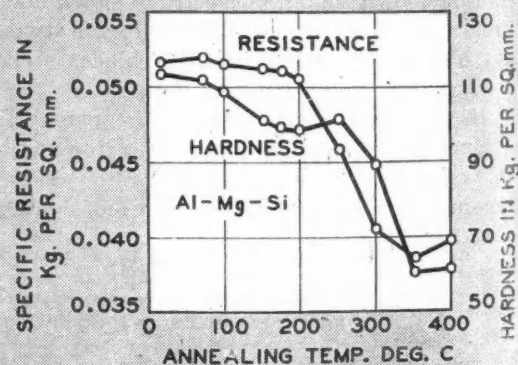
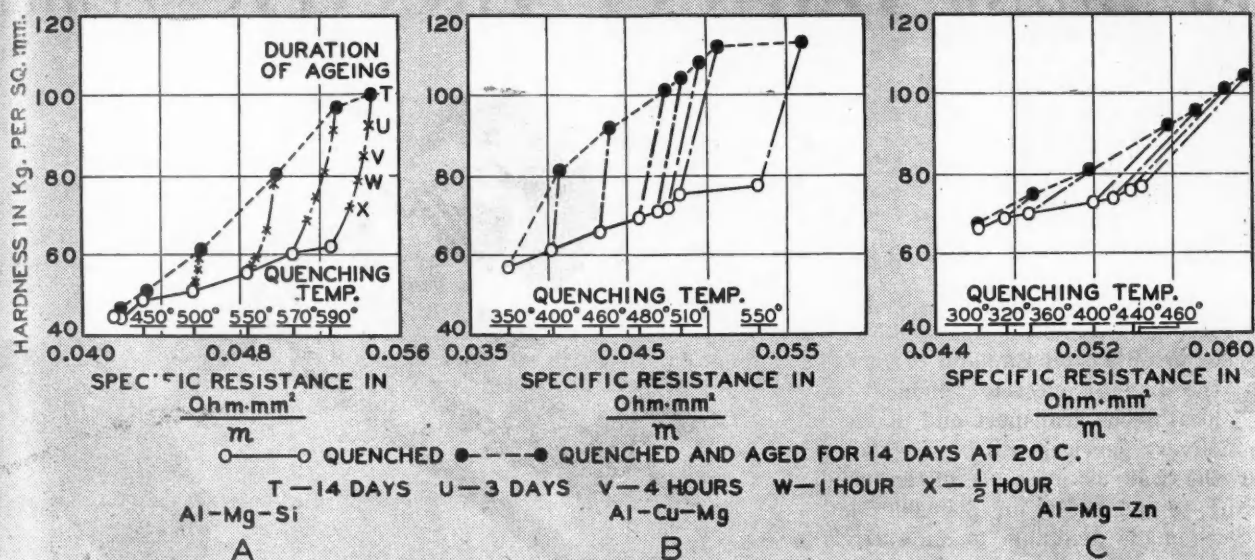

Fig. 3. Change in hardness and resistance on annealing a cold-aged alloy of Al-Mg-Si.
Fig. 2. Hardness of three aluminum alloys in connection with specific electric resistance.
**Fig. 3—Unetched photomicrograph of the weld zone of the exhaust manifold which had been in service 4000 hr. This picture indicates the depth of corrosion which occurred during the life of the manifold—only 0.005 in.**
Photomicrograph, Fig. 2, is a picture of a weld zone taken from an exhaust manifold which had been in continuous service from 1938 to 1944. The total flying hours accumulated during these years approximates 4000 which is in excess of the normal life of an exhaust manifold. This manifold was returned for the replacement of an exhaust port which had become worn by mechanical means during use. No breakdown of the metal in the form of cracking or corrosion was noted with the exception of an attack which had progressed to not over 0.005 in. on the inside surface of the body of the manifold. According to the criteria by which stainless steels and stainless steel welds are judged in many specifications, the photomicrograph of this manifold would be cause for great concern. This is due to the heavy network of carbides progressing throughout the original sheet, and an even heavier network in the region of the weld zone. Yet, the photomicrograph (unetched) in Fig. 3 showing the depth of corrosive attack by exhaust gases quite conclusively indicates that the presence of the carbides, even with their continuity becoming more definite, does not contribute to an excessive cause for corrosive attack by the exhaust gases. This bulwarks the contention that there is little or no relationship between the life of an exhaust manifold